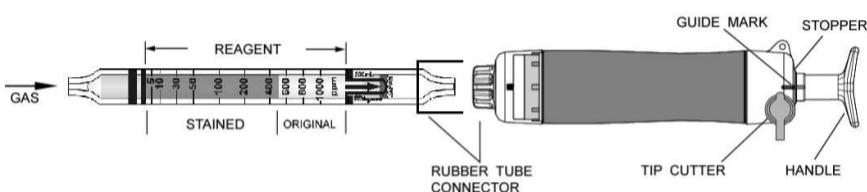

Fig.1
- ② Insert the detector tube into the aspirating pump securely as shown in Fig.1. (Arrow mark shall point to the pump.)
- ③ Align the guide marks on the shaft and stopper of the aspirating pump.
- ④ Pull the pump handle at a full stroke until it locks and wait for 2 minutes or until the completion of sampling is confirmed with the flow indicator of the pump. (See descriptions about the flow indicator in the instruction manual of the pump.)
- ⑤ Push back the handle without removing the detector tube from the rubber tube connector so that air in the pump will be discharged perfectly. Then repeat the steps ③ ~ ④ once more.
- ⑥ On completion of sampling, read the scale at the maximum point of the stained layer.